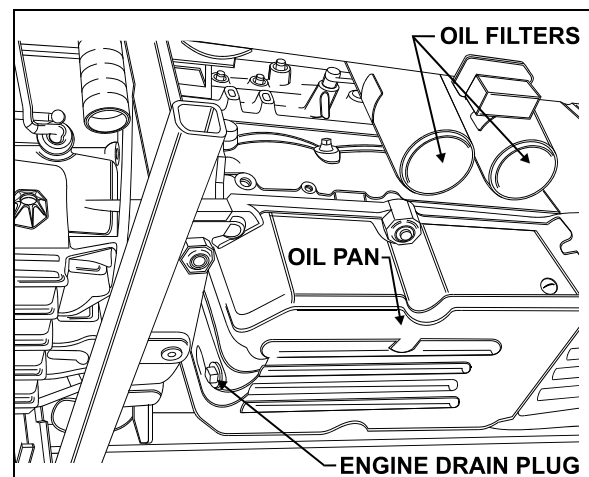

FIGURE 19: UNDER VEHICLE VIEW 01029
1. From under the vehicle, remove the engine drain plug on the oil pan. Allow oil to drain (Fig. 19).